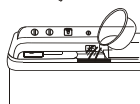

Figure 2
2. Fill the water and add the dissolved washing powder to make the water level reach the preset position. (Figure 2)